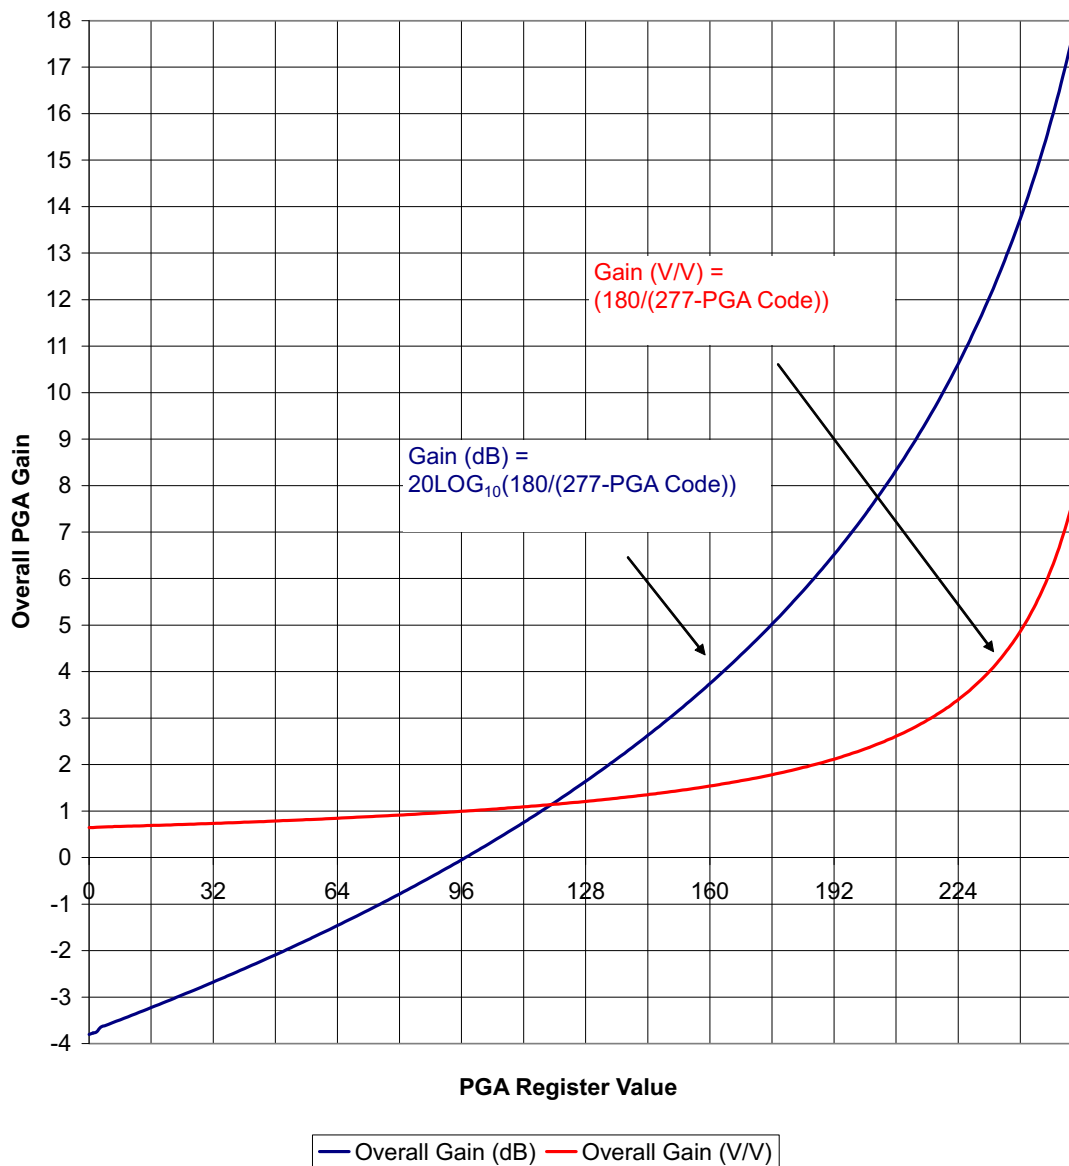

Figure 15. PGA Gain vs. PGA Gain Code
- An 8 bit PGA (Programmable Gain Amplifier) is also available. The PGA gain curve is non-linear for optimal performance in imaging applications, and is shown on Figure 15. The approximate gain equation is: